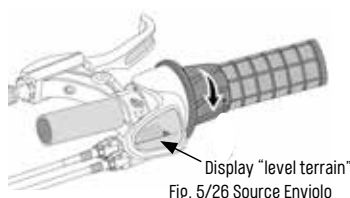

Fig. 5/26 Source Enviolo
- Anticlockwise rotation: Display shows "level terrain" ("Fig. 5/ Source Enviolo" on page 26). This transmission should be selected for faster travel.